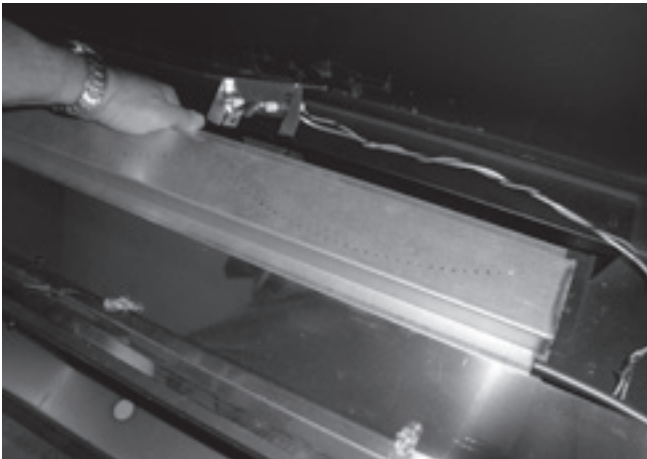

Figure 15
13. Grasp the burner assembly, then shift the burner assembly about $\frac{3}{4}$ inch to the left to release the air shutter off of the orifice holder. Once free, lift the burner assembly out of the fireplace and set aside. **See Figure 15.**